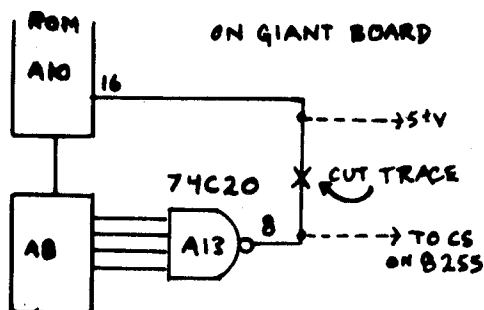

FIGURE 2
Since I use other 8255s in my system, the schematic shows a 74LS154 providing \overline{CS} for the clock's 8255. Using this arrangement, 16 different PPIs can be selected yielding 48 8-bit I/O ports. Many good methods of high order address latching and chip selection have appeared in *Ipsa Facto*. This one works for me. Since you may not have an interest in this expansion idea, you may wish to use an alternate method of chip select which eliminates the 74LS30, 74LS32, 74LS154 and 74LS374 (figure 2). Cut the trace on the Netronics Giant Board between pin 8 on A13 and pin 16 on A10. Run a line from A13 pin 8 to point (A) (chip select-see clock schematic). A10 pin 16 should be tied high to disable the ROM. The 8255 will now have addresses F000H to F003H. The Demo program will run unmodified with this arrangement. I have tried this- it works. It should be possible to place a switch on the Giant